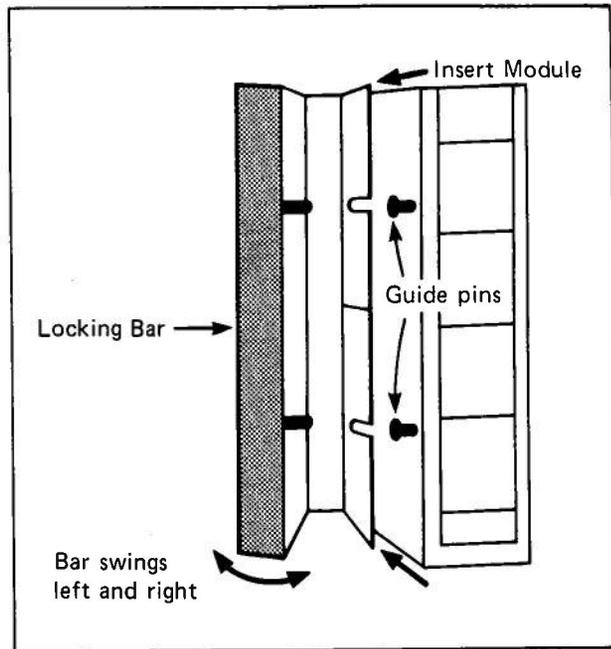

Figure 6 - Guide Slots
**Step 2** – Move the Locking Bar on the I/O Rack's built-in terminal block to the left in order to uncover the guide slots on the block. (See Figure 6.)